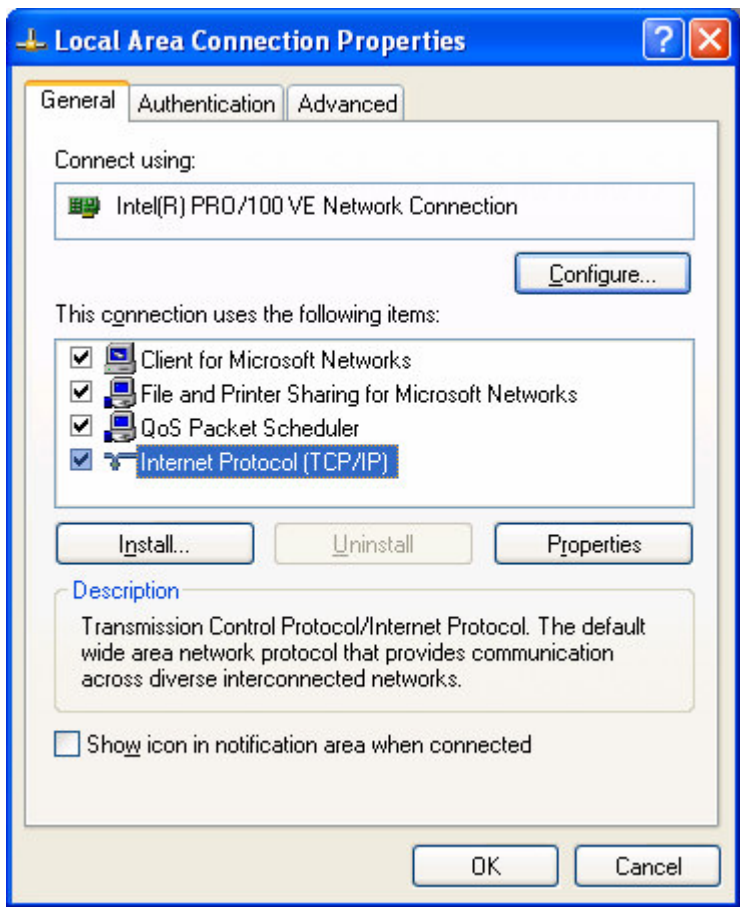

Figure 5.5-6 [Local Area Connection Properties] dialog
- (j) Clicking [OK] on the dialog shown in Figure 5.5-6 complete the setup procedure.